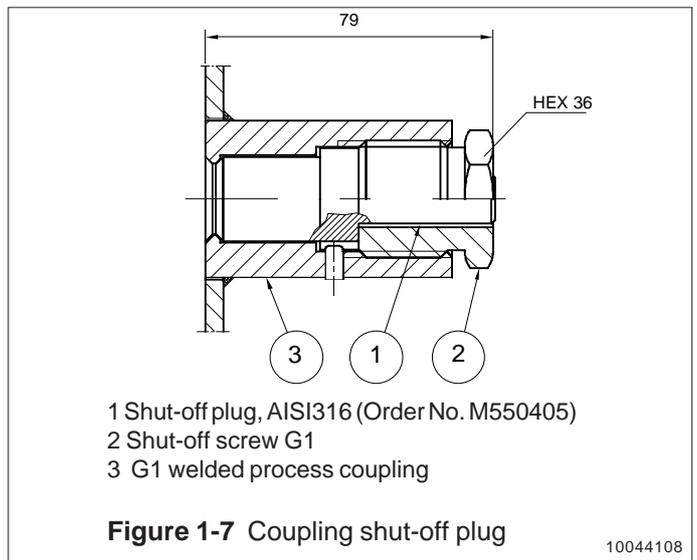

Figure 1-7 Coupling shut-off plug
- The transmitter must be out of the coupling while the coupling is welded. You can use the shut-off plug shown in Fig. 1-7 to shut the coupling. The plug protects the coupling's sealing face and permits the starting of the process without the transmitter.
- It is always recommendable to use the welding assistant (M1050450) while welding the coupling to prevent any distortions due to heat (Fig 1-7).
- Insert the transmitter **in a straight line** into the coupling (Fig. 1-7), so that the guide groove on the transmitter aligns with the stop pin on the coupling. The transmitter settles into position when the groove and pin are aligned, and will be prevented from rotating in the coupling.